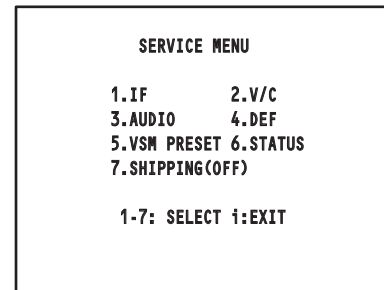

Fig.1
- (1) Press the **[INFORMATION]** key and the **[MUTING]** key of the REMOTE CONTROL UNIT simultaneously.
- (2) The SERVICE MENU screen will be displayed (Fig. 1).
Verify what to set in the SERVICE MODE, and set whatever is necessary (Fig.1). Refer to the SERVICE ADJUSTMENT for setting.